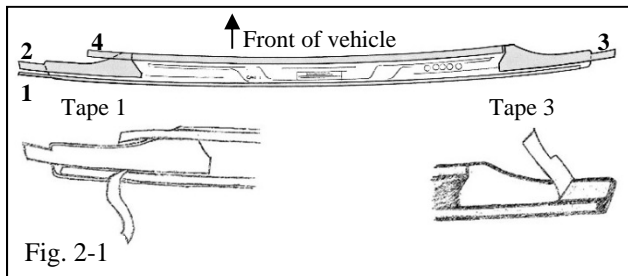

Fig. 2-1
- (a) Review Fig. 2-1 to identify the tape liners.
- (b) Peel back tape liners **1** and **3** approximately 2" (50mm) (Fig. 2-1).